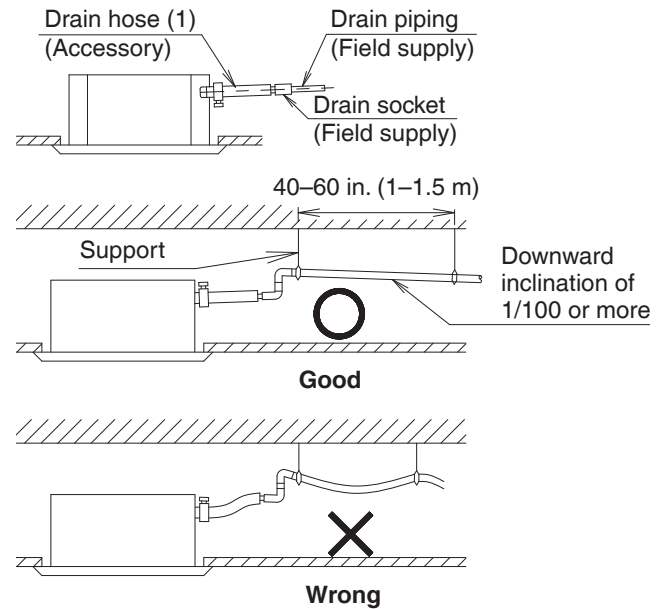

Fig. 14
(1) Carry out drain piping.
- Install the drain piping as short as possible with downward inclination of 1/100 or more where air cannot stagnate. (**Refer to Fig. 14**) Bubbling sound may occur.
- Install supports at a distance of 40–60 in. (1–1.5 m) so that the piping may not deflect. (**Refer to Fig. 14**)
- Make sure to use the attached drain hose (1) and the metal clamp (2). Insert the drain hose (1) into the drain socket up to the point where the socket diameter becomes larger. Put the metal clamp (2) to the taped hose end and tighten the metal clamp (2) with torque 1.00 ± 0.11 lbf·ft. (1.35 ± 0.15 N·m).